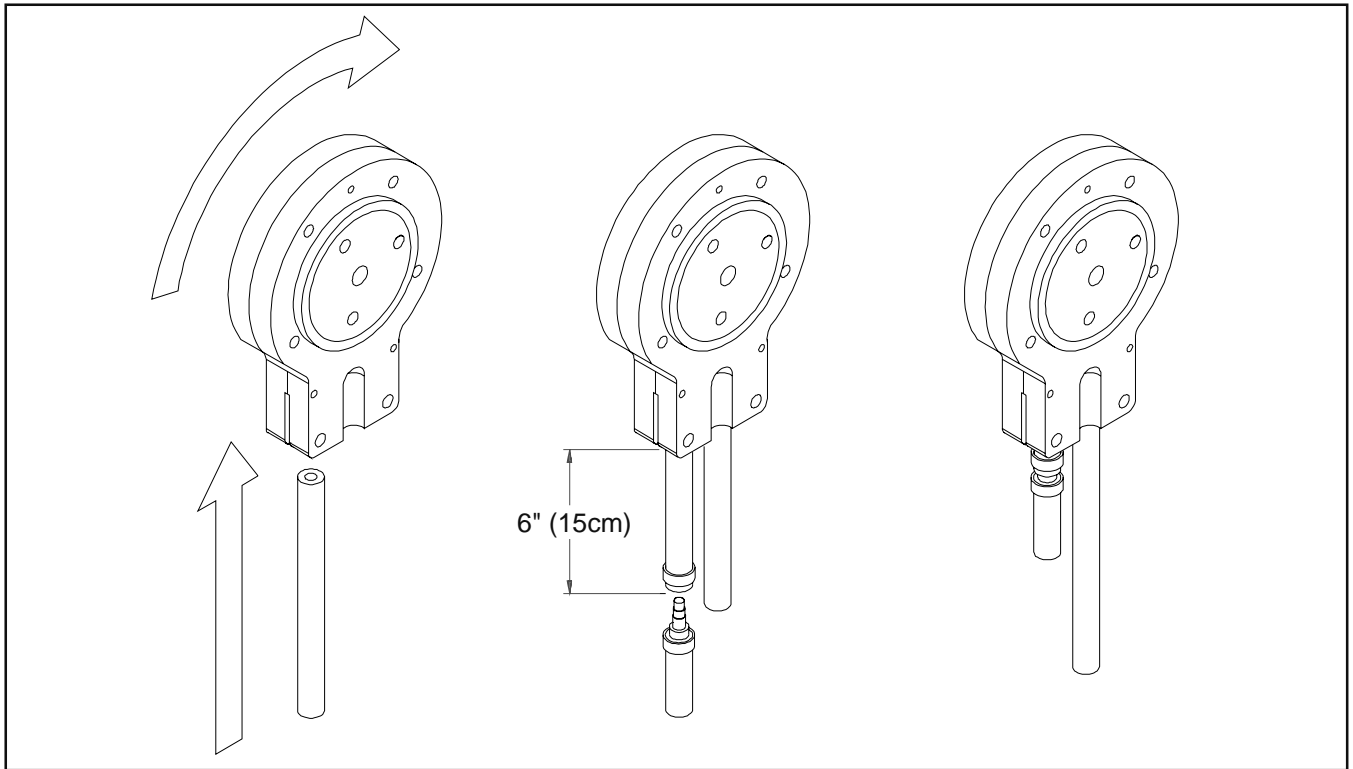

Figure 11. Mix Hose Installation
- E. Place the CLEAN-OFF-ON switches in the OFF position before continuing. Figure 11.
Before operating the freezer, it is required that the operator know the function of each operating control. Refer to Figure 11 for the location of the operating controls on the freezer.